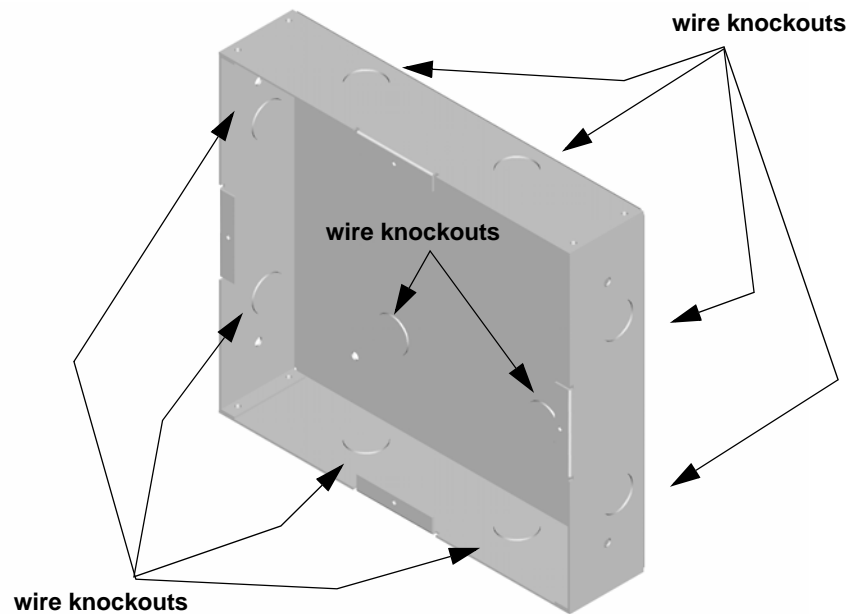

Figure 4.15 Back Box Knockout Locations
2. Remove knockout holes as needed for wires. See Figure 4.15 for backbox knockout locations
- Remove the desired knock out. See Figure 4.15.
2. Remove knockout holes as needed for wires. See Figure 4.15 for backbox knockout locations.
1. Remove the desired knock out. See Figure 4.15.